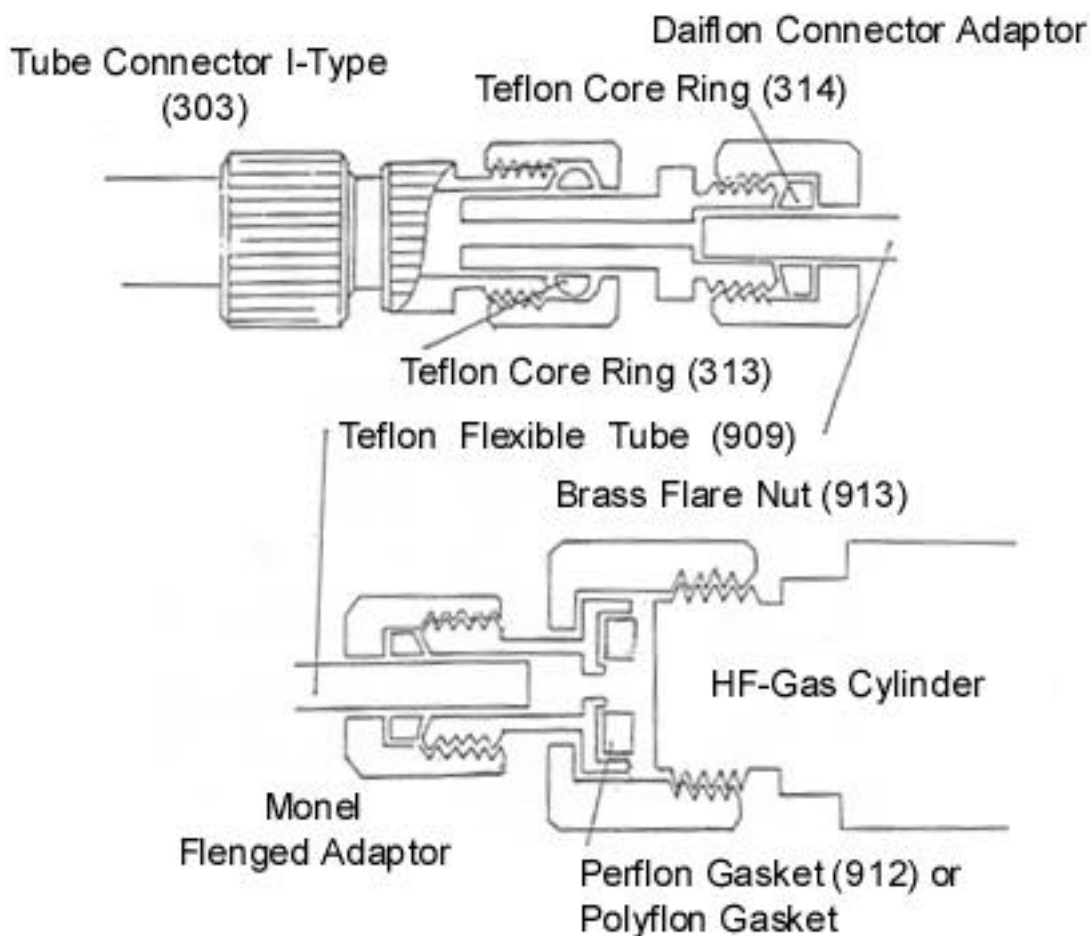
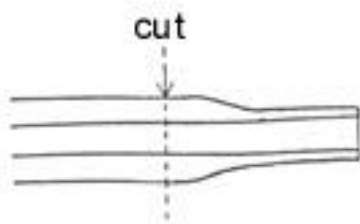

Figure 8 Section of Flexible Connector
Figure 10
3. The HF cylinder and the HF apparatus are connected with a flexible connecting tube, which is assembled with 908, 909, 910, and 913. (See page 9 for assembly of the flexible connecting tube). The Monel Flanged Adaptor (910) is fixed to the HF cylinder using the Flare Nut (913) through gasket (911 or 912). The Connector Adaptor (908) is inserted into the right terminal I-Type Connector (303), which is tightened by a Teflon core ring s shown in Figure 8.
The flexible connecting Tube Assembly consists of the Daiflon Connector Adapter (908), Teflon Flexible Tube (909), and Monel Flanged Adapter (910). Cross-sections of the adapters are shown in Fig.8. To fasten the Teflon tube to each adapter, follow the procedure below.
1. Insert the end of the Teflon Tube (909) into either Adapter (908 or 910).
4. Test the connection by pulling on the Flexible Tube by hand. If the tube does not come out easily, a good seal has probably been made. If the tube does come out, the end portion must be removed because it is likely that the Teflon tubing has been drawn to a smaller diameter by passage through the hole smaller than its external diameter. The result of such drawing is shown in Fig.10. Once the external diameter has been reduced, the tube cannot be properly secured by the Teflon Core Ring (314), even by the application of much stronger force. Therefore, if the tube does slip out of the connector upon pulling, the slimmed part of the Teflon tube must be removed with a fine-toothed saw or a single-edged razor blade. The slightly shortened Teflon tube can then be reassembled by the above procedure, applying a little more force for sealing.